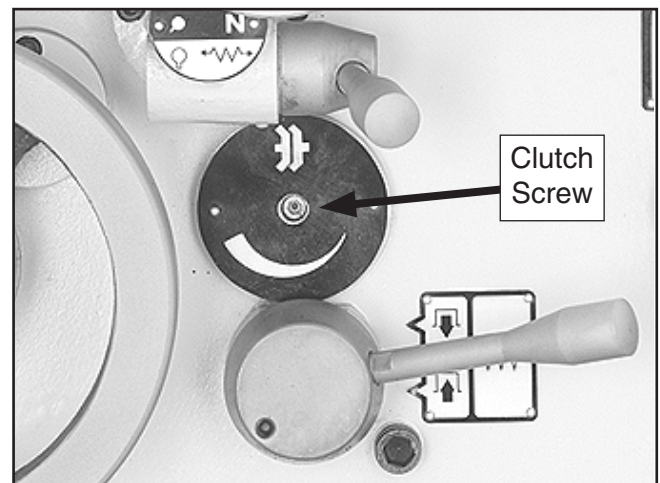

Figure 108. Feed clutch.
1. Using a 5mm hex wrench, turn the center cap screw clockwise to increase the clutch holding power, and turn counterclockwise to decrease the clutch holding power (**Figure 108**).